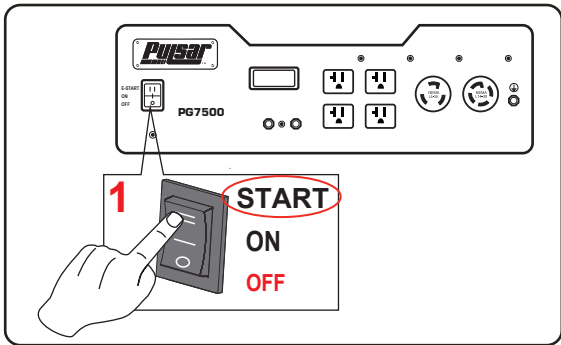

Fig 9 Electric Start
- For electric start, push the engine ON/OFF switch to the “ON” position. Push and hold the engine START/ON/OFF switch in the “START” position. Do not hold the START/ON/OFF switch in the “Start” position for more than 15 seconds. Allow 1 minute between starting attempts. (See fig 9)